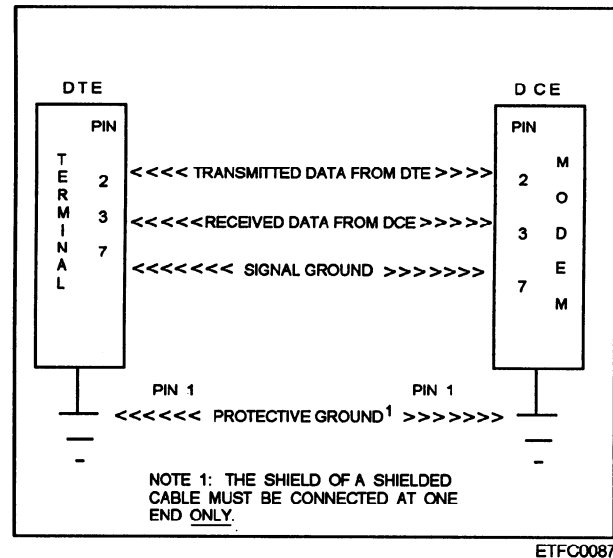

Figure 7-26.—A typical DTE to DCE connection showing the minimum wiring required under the RS-232 interface standard.
**Pin 3, Received Data**— Pins 2 and 3 are the pins of most importance; for if it weren't for the data that passes through them, the remaining pins would not be needed. Data is normally transmitted in the following manner. The DTE **transmits** data on pin 2 and **receives** data from the DCE on pin 3 as described in figure 7-25 and shown in figure 7-26. Figure 7-26 illustrates the absolute minimum wiring required under the RS-232 interface for normal DTE-DCE communication.